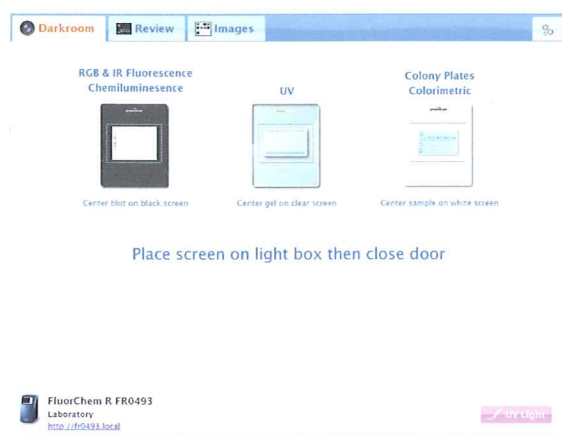

Figure 1
6. When the system has finished initializing, the Door Open Screen (Figure 1) will display.